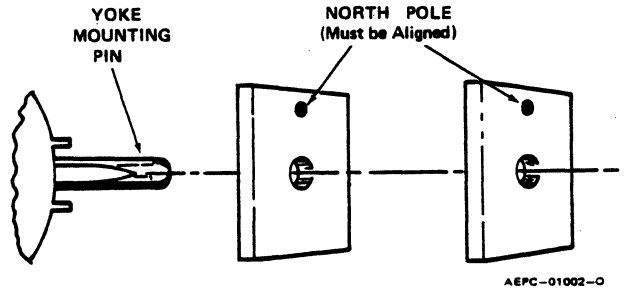

Figure 12. Installing a Second Yoke Magnet
- Step 3. If the desired raster cannot be obtained, add a second magnet to the yoke mounting pin. Both magnets must be aligned as shown in Figure 12; then rotated simultaneously.